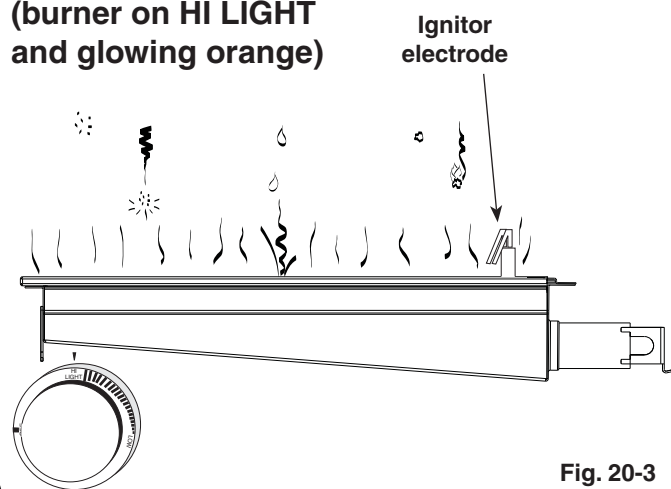

Fig. 20-3
- **DO NOT place food on the cooking grid until the IR burner glows orange (Fig. 20-3).** Drippings are heated and evaporate instead of sticking to and impairing burner function.